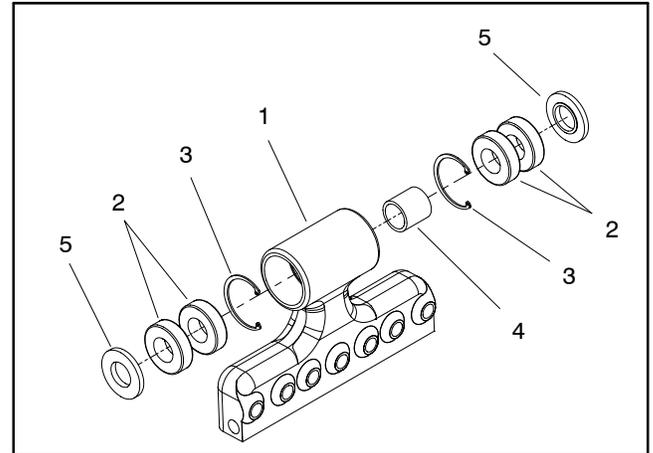
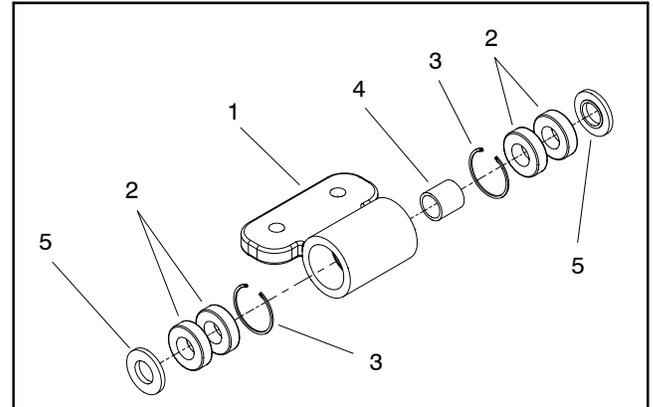

Figure 6
Figure 7
4. If necessary, disassemble tine head assembly using Figure 6 as a guide.
5. If necessary, disassemble hinge assembly using Figure 7 as a guide.
1. If tine head (Fig. 6) or hinge (Fig. 7) assemblies were disassembled:
D. Press final two (2) new bearings into housing following above procedure.
2. Apply antiseize lubricant to wrist pins (items 5 and 14).